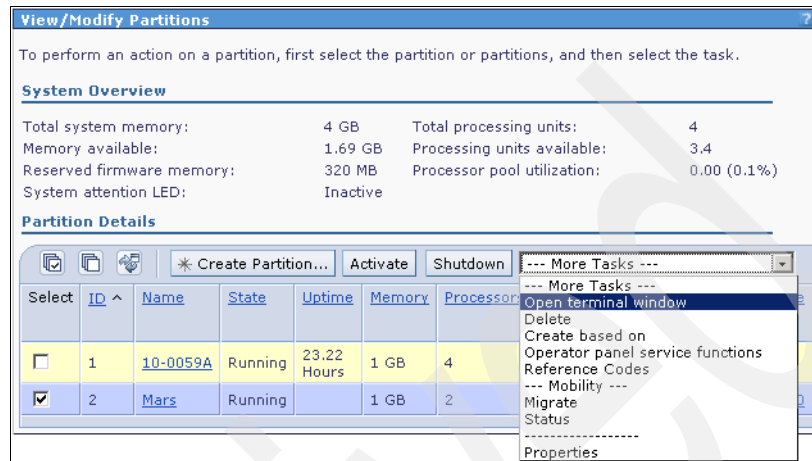

Figure 4-29 Open a virtual terminal to the partition
3. The status of the partition has changed to *running*. Select **Open Terminal** from the More Tasks drop-down list box to open a terminal connected to the selected partition. See Figure 4-29.